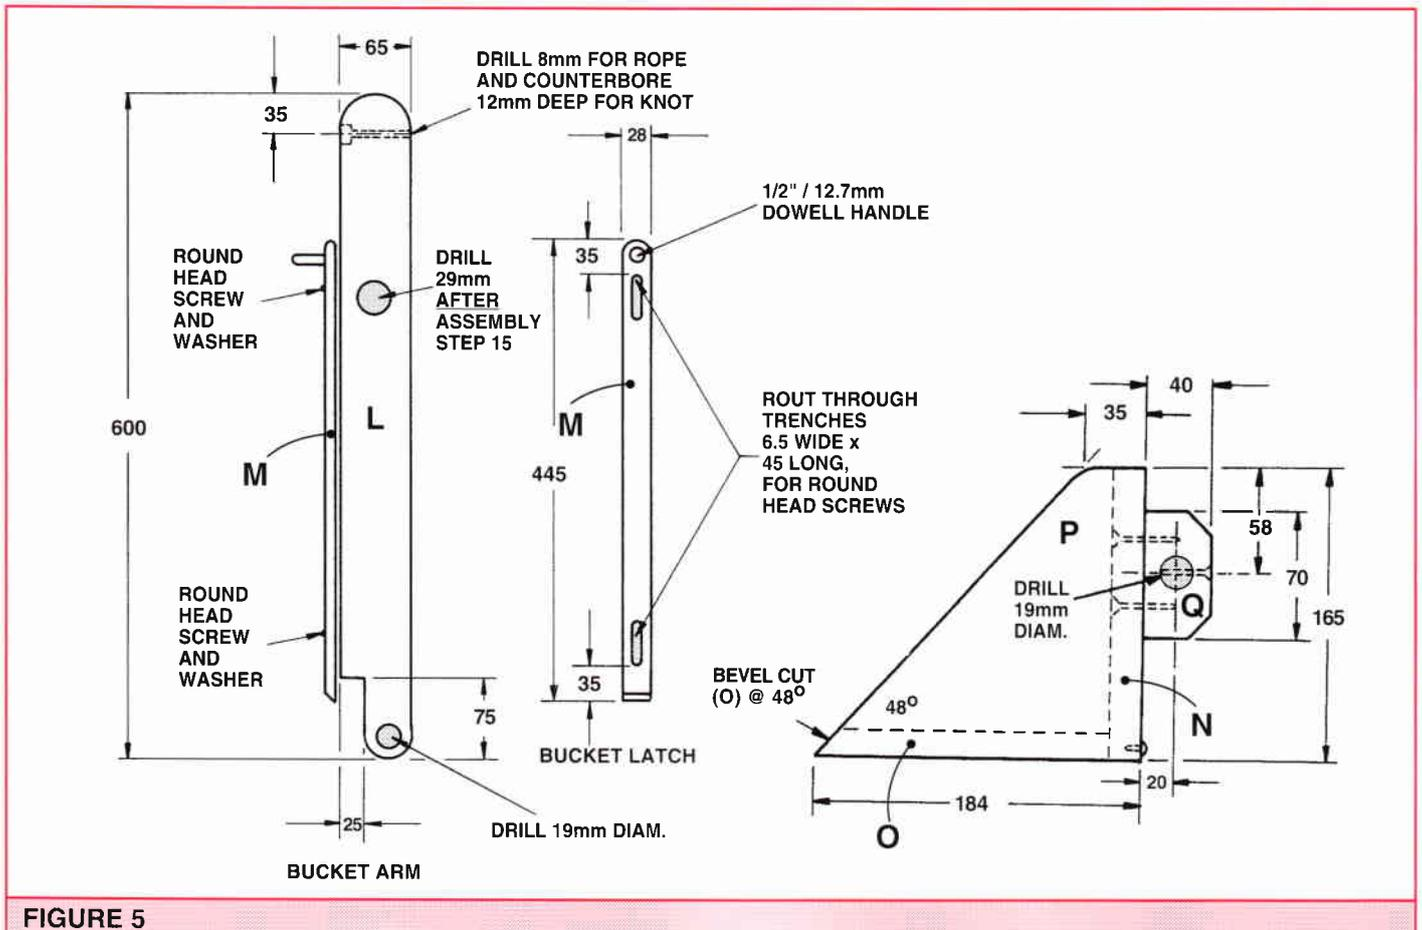

FIGURE 5
Mark and drill carefully the 19mm hole at the bottom end of (L) for the bucket pivot, and carefully round the end around the hole with the sanding disc. Drill and countersink the hole at the top for the rope. (Figure 5)
6 Now make the bucket. Cut the back and base to size, and carefully make a 48 degree bevel cut on the front edge of the bucket base (O). Cut the sides (P) to shape and assemble the bucket with nails and waterproof glue. Cut the pivot blocks (Q) to size, clamp them together and drill a central hole for the pivot dowel through both blocks. Cut off their corners for better appearance, drill the pilot holes for the dowel fixing screws. (Figure 5)